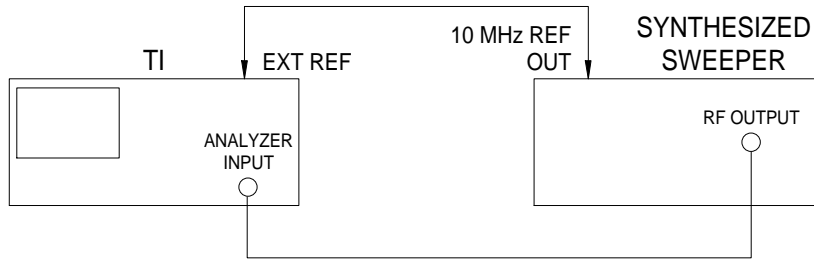

Figure 1.
4.2.1 Connect equipment as shown in Figure 1.
\* Set the Synthesized Sweeper for minimum output. Disconnect the Synthesized Sweeper from the TI and replace with the Frequency Synthesizer with the timebases connected as in Figure 1.
4.4.1 Connect equipment as shown in Figure 1.